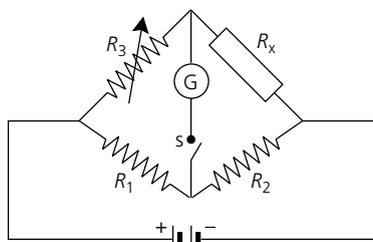

Figure 22.33
- ***37 The diagram of Figure 22.33 is known as a Wheatstone bridge and is used to measure unknown resistances. An unknown resistance R_x is placed into the circuit and resistor R_3 is varied until the galvanometer reads zero current. This is called a null balance.